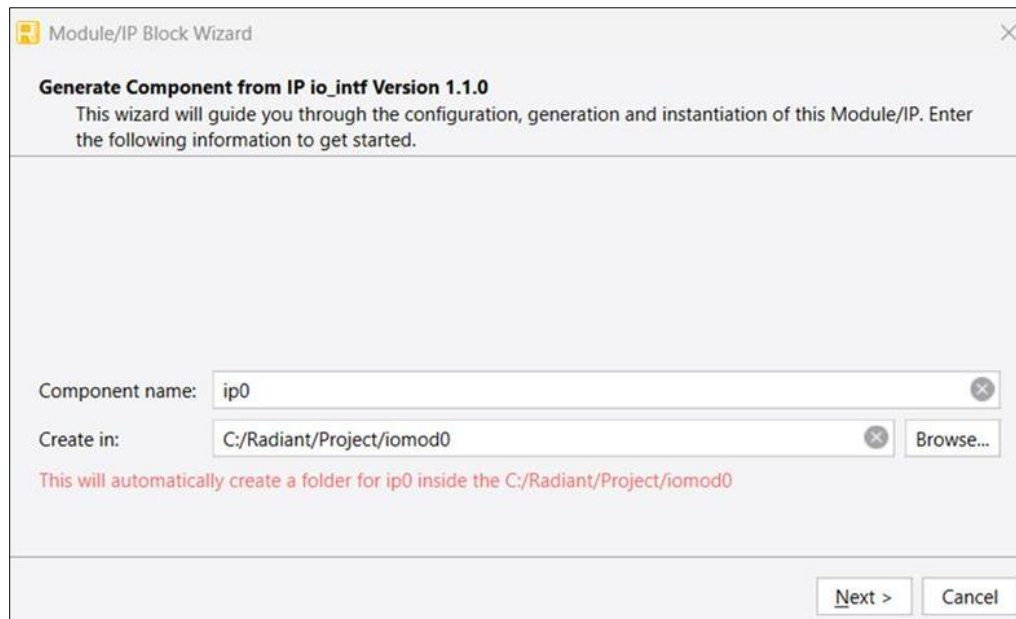

Figure 7.1. Module/IP Block Wizard
2. In the **IP Catalog** tab, double-click **I/O Interface** of the **Processors_Controllers_and_Peripherals** category under **IP**. The **Module/IP Block Wizard** opens, as shown in Figure 7.1. Enter values in the **Component name** and the **Create in** fields and click **Next**.
- Click **Finish**. All the generated files are placed under the directory paths in the **Create in** and the **Component name** fields shown in Figure 7.1.